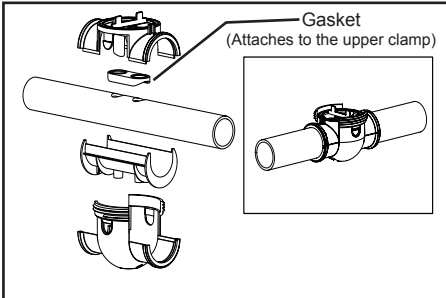
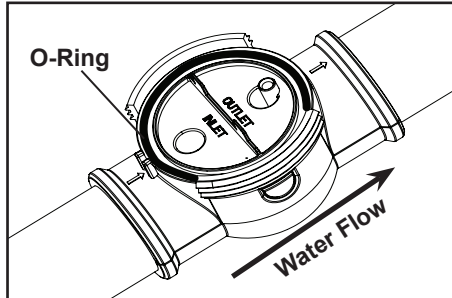

Figure 10. Attaching Cell Clamps
Figure 11. Water Flow Arrows
11. Secure the clamps, pipe spacer, and gasket around the pipe as shown (see Figure 10) making sure the flow arrows on the clamp point in the direction of the water flow (see Figure 11). Make sure the two (2) clips on the sides of the clamp are snapped into place.
12. Insert the o-ring into the channel on the clamp and then attach the cell (see Figure 11 and 12).